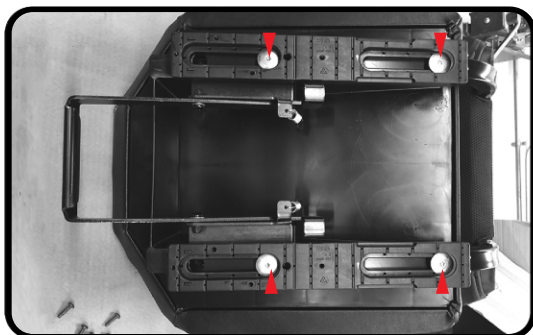

figure 6
STEP 7 Using a T30 torx driver, remove the four yellow zinc large-head cap screws shown. Make note of direction and positioning of the plastic slider pads, remove and set aside (figure 6).